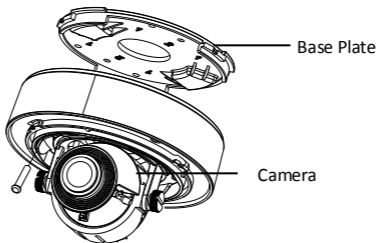

Figure 2-4 Securing the Camera
- Tighten the lock screw to secure the camera with the base plate as shown in Figure 2-4.